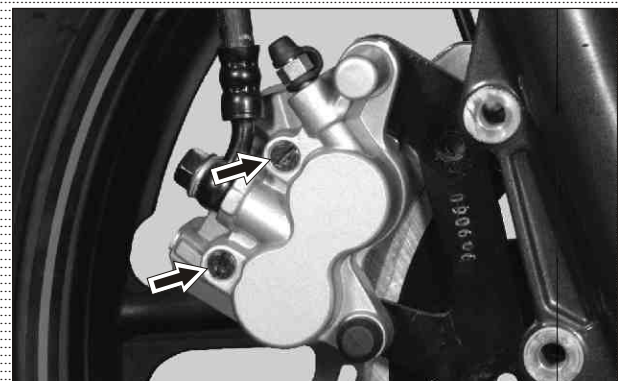

Fig. 2.67
- Remove plug pin (2 nos) from the body caliper. (Fig. 2.67)